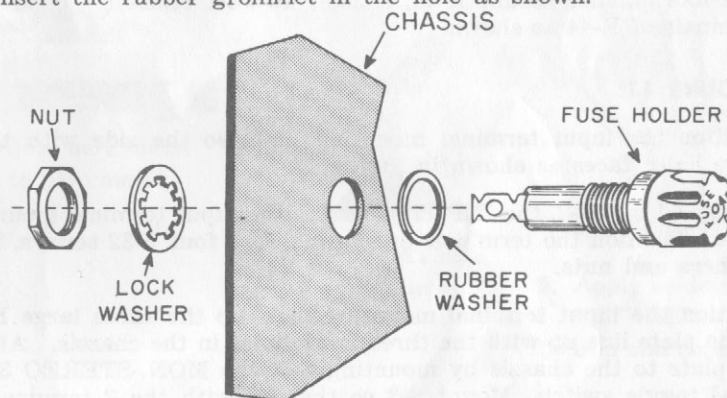

FIGURE 9. FUSE HOLDER DETAIL
- ☑ Mount F-1, the fuse holder, as shown in Figure 9. Bend terminal 1 of F-1 slightly away from the body.